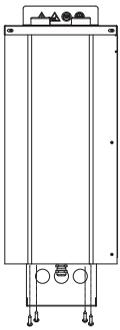
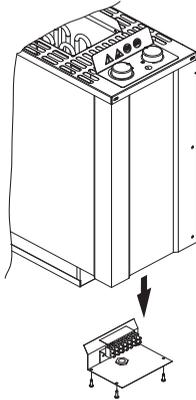

Fig. 3
Fig. 3a
2. To connect the stove cable, first unscrew the four screws shown in Fig. 3 and then pull down the terminal strip. See Fig. 3a.